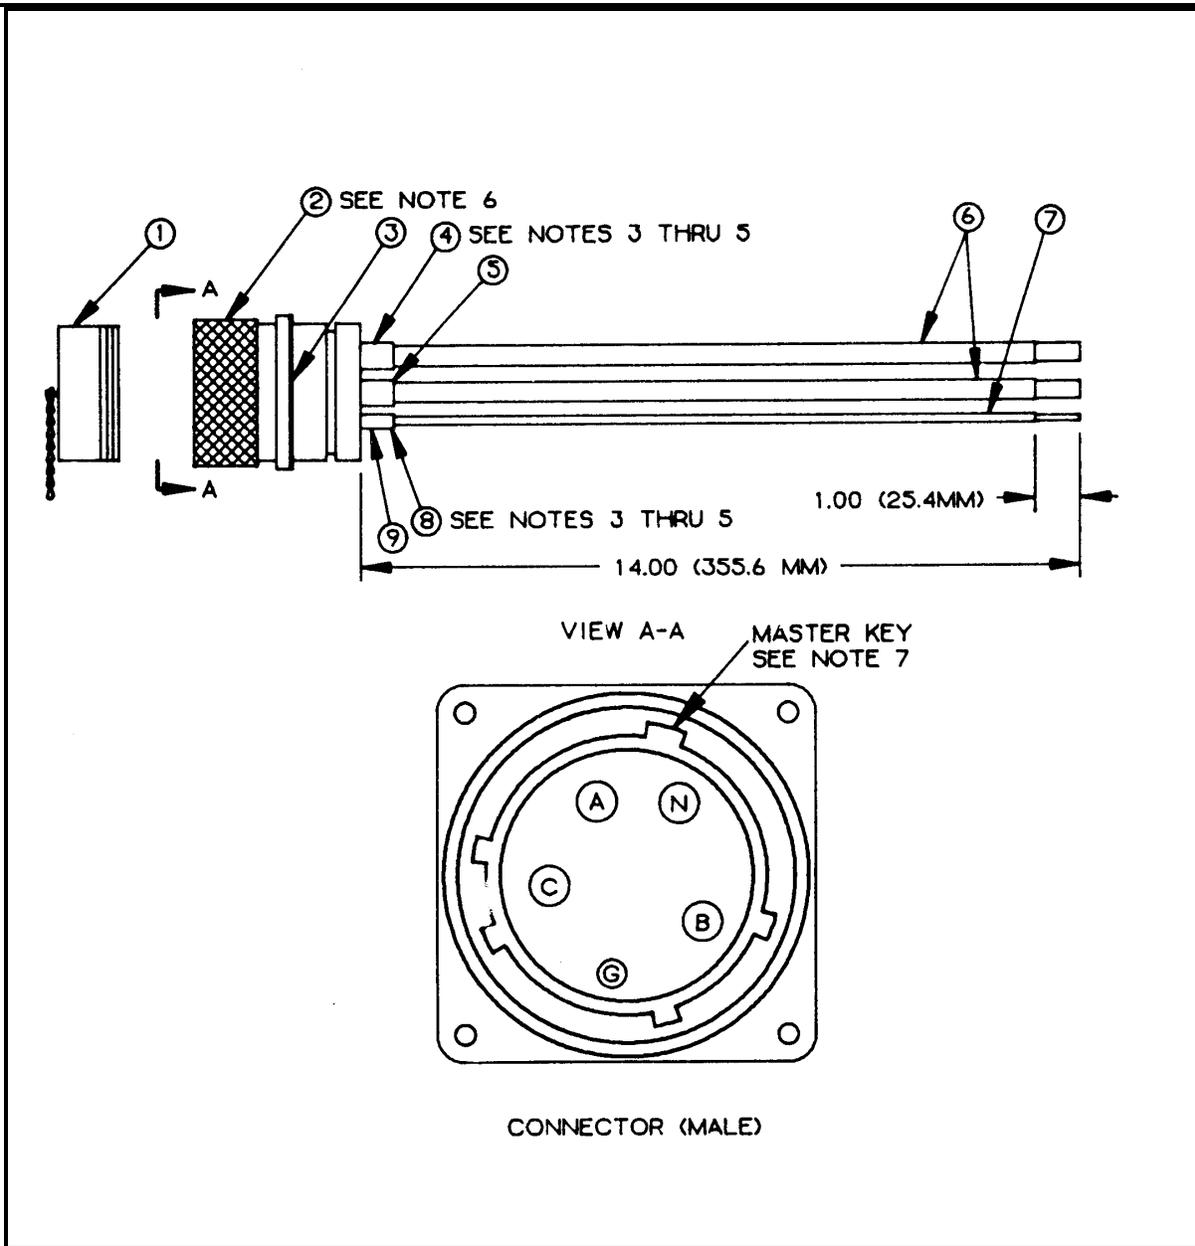

Figure F-8. M40, 40-Amp, Input Connector Assembly, (J1)
Component Legend for Figure F-8
- c. Electrical connector (Figure F-8, Item 2) is furnished with the following: